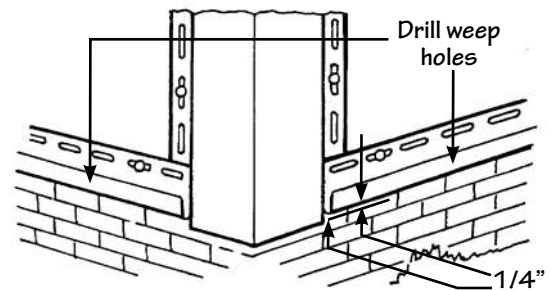
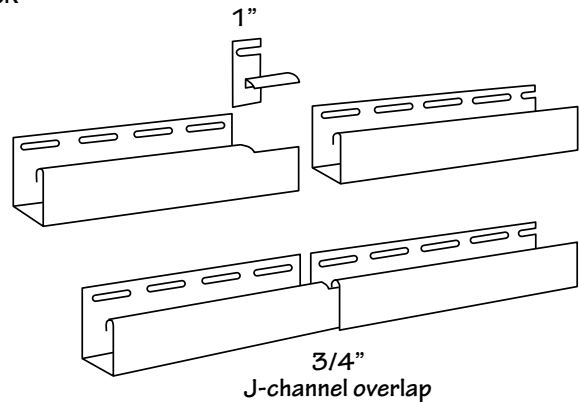
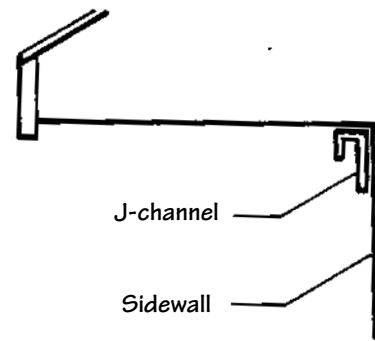

Figure 53.
Figure 54.
Figure 55.
- Position the top edge of a J-channel or vertical base along the previously snapped chalkline. Remember to drill minimum 3/16" (4.8mm) diameter weep holes no more than 24" (610mm) apart (Fig. 53).
- Fasten every 8" to 12" (203mm to 305mm). Use the center of the nail slots. All vinyl should be fastened securely but not tightly. Sideways movement should not be restricted. Leave 1/4" (6.4mm) gaps at the corner posts (Fig. 53). Where lengths adjoin, trim the nailing flange 1" (25.4mm) and overlap 3/4" (19mm) to produce a neat joint (Fig. 54).
Install J-channel at the tops of the sidewalls (Fig. 55). At the gable ends, snap a level chalkline along the base of the gable and install J-channel. Overlap where necessary and allow for expansion (Fig. 54).